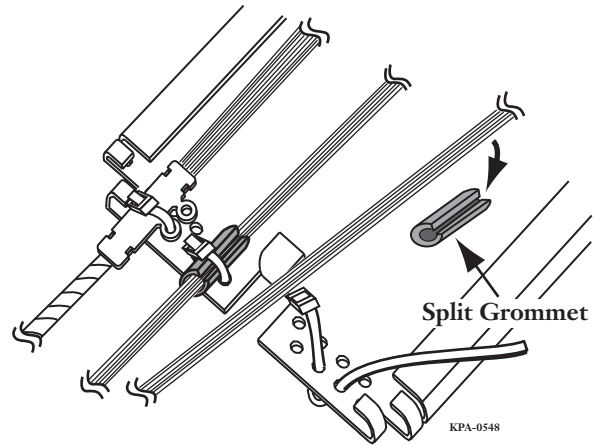

Figure 41
- Step 2:** Secure the split grommet to the tray using a cable tie (Figure 41). Position the cable tie buckle to one side to avoid interference with the cover.